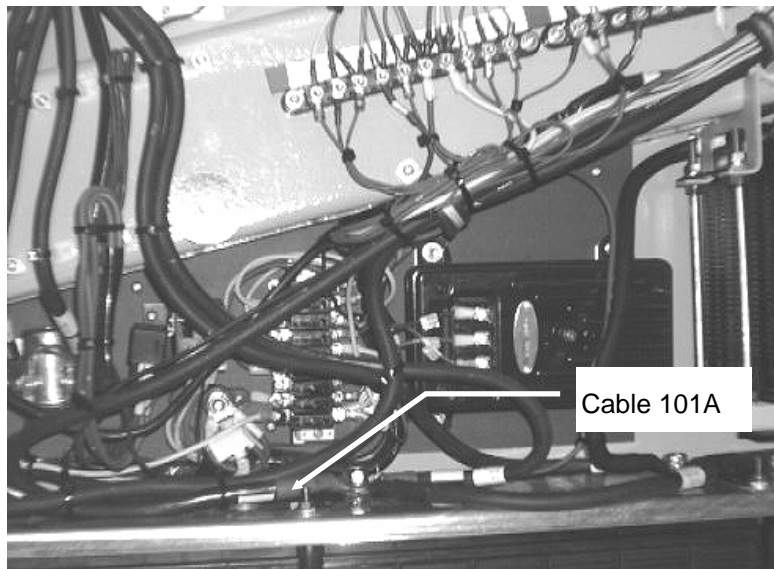

FIGURE 3
3. Disconnect cable no. 101A from battery (Fig. 3).
20. In the battery compartment, reconnect cable no.101A to battery (Fig. 3) and torque nut at 10-15 lbf•ft (13-20 N•m).